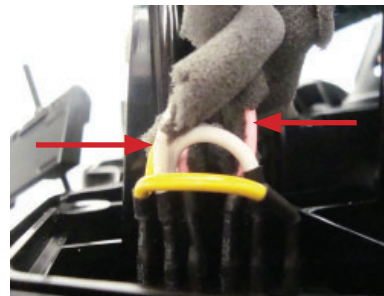

Figure 32
7.9 Figure 32, shows the white and pink wires that are installed on the barrier strip. These wires must be removed and replaced with the replacement harness, transformer and switch assembly.